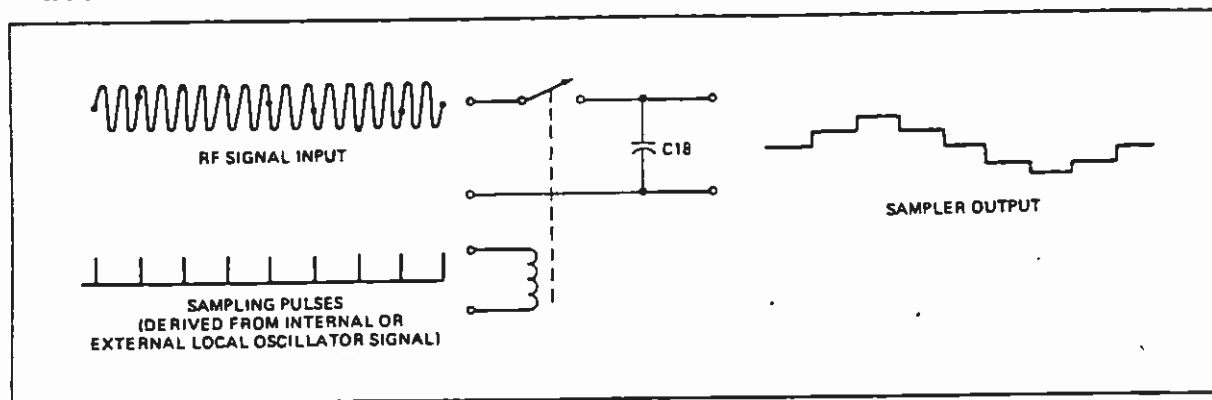

Figure 3-3. Sampling Gate: Simplified Operation
2. The operation of the sampling gate is shown in simplified form in Figure 3-3. Each time the sampling gate is closed, by a short-duration pulse, the input capacitance of the sampler amplifier plus any stray capacitance is charged to a voltage that is less than the instantaneous r.f. input voltage. Before the next sample is taken, positive feedback from the sampler amplifier causes additional charge to be placed on this capacitance. Charge is added until the output voltage of the sampler amplifier is equal to the r.f. input at the time the sample was taken. This output voltage is held constant until the next sample is taken. Successive samples are taken until the r.f. waveform is reconstructed at 400 kHz. Additional feedback from the sampler amplifier maintains symmetrical reverse bias on the sampling gate. R10 adjusts the bias magnitude, and R14 adjusts the bridge balance.